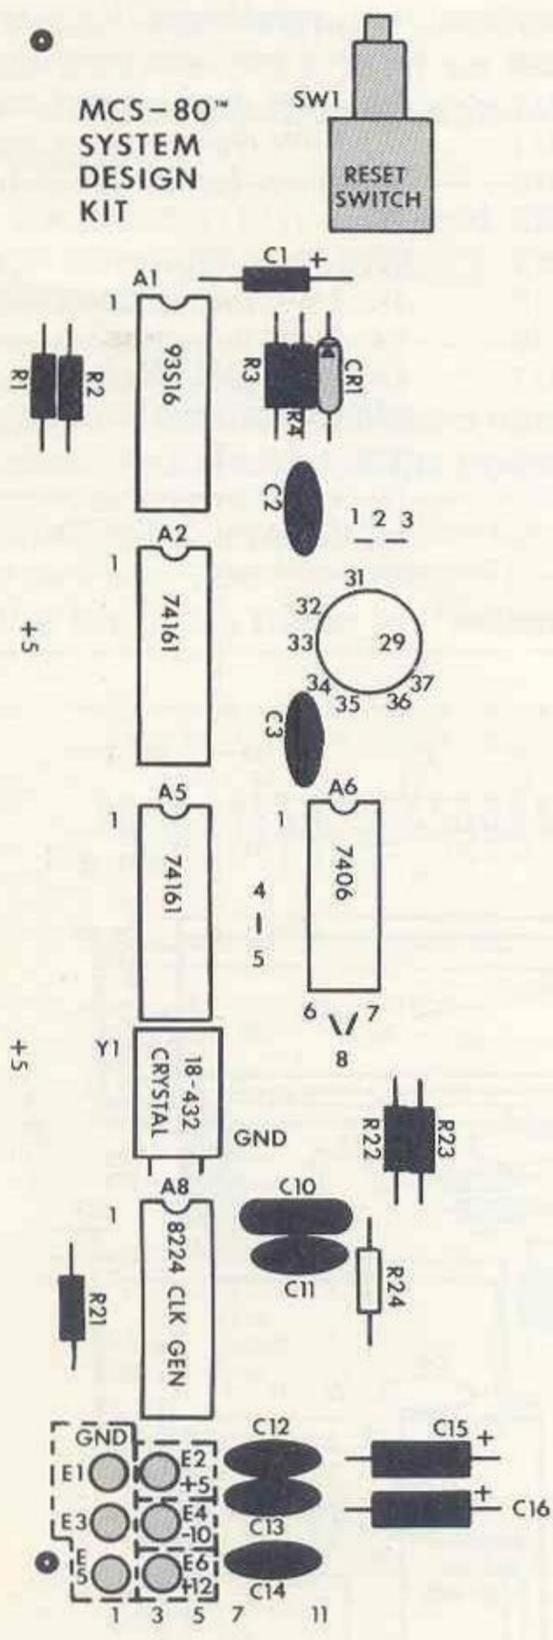

Figure 2-5. Construction Figure #3.
- ☑ Solder terminal lugs E1-E6 in place. Figure 2-5 shows the installation completed in the last three steps.